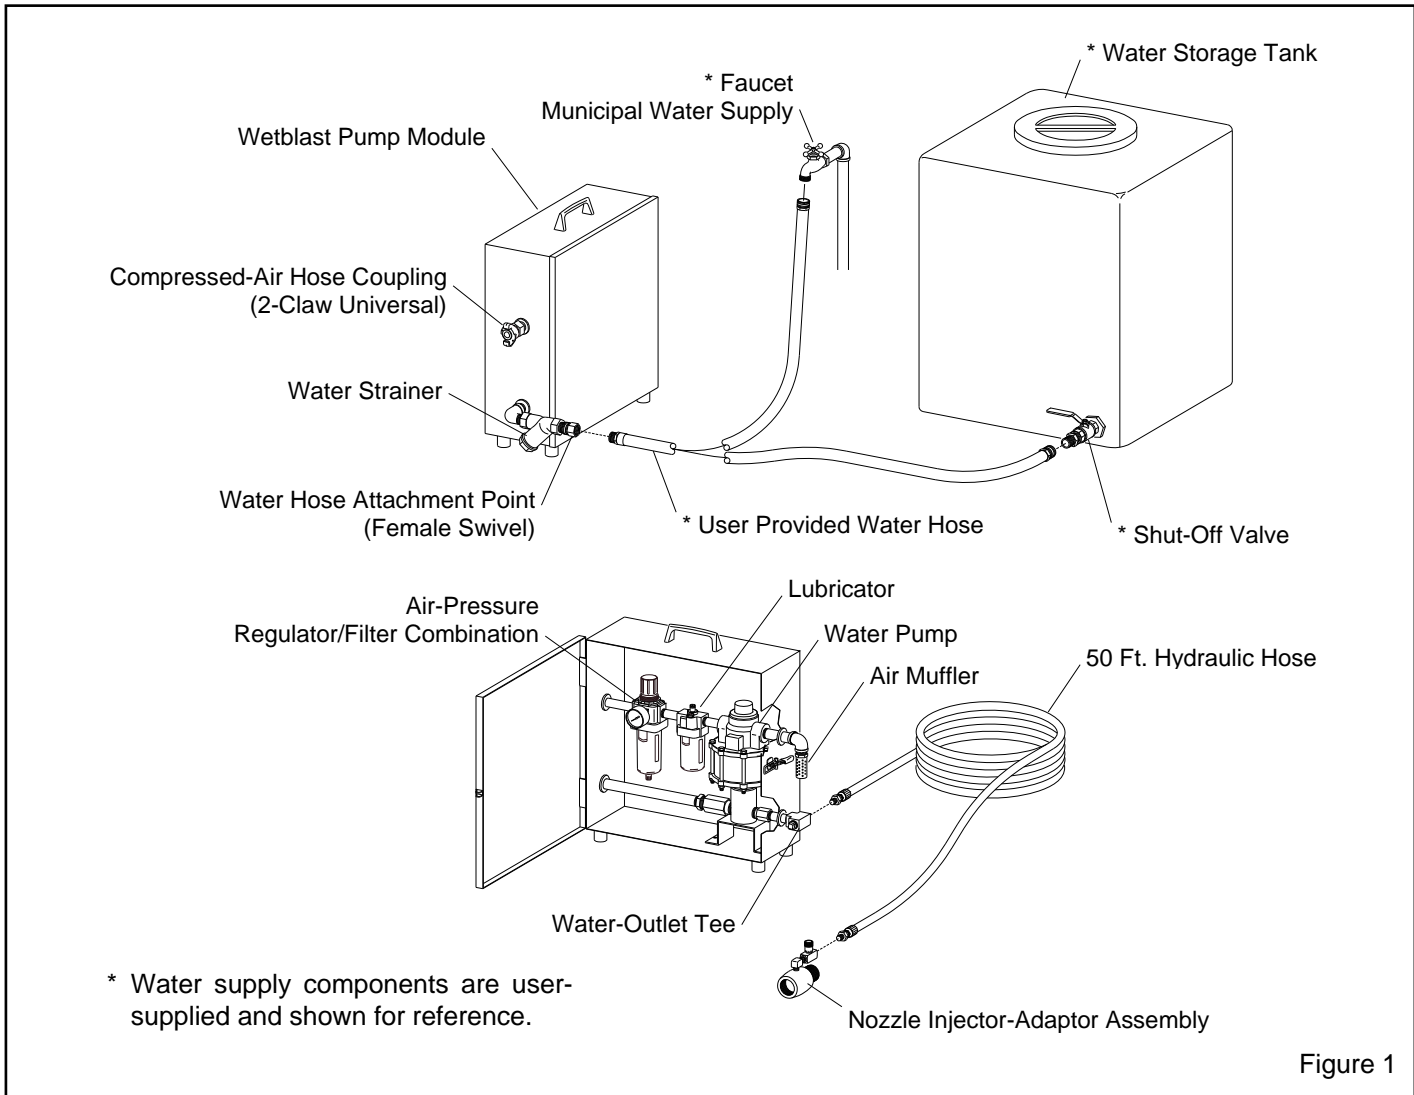

Figure 1
1.3.1 The components of the Wetblast Injector System with typical water set-ups are shown in Figure 1, and include: